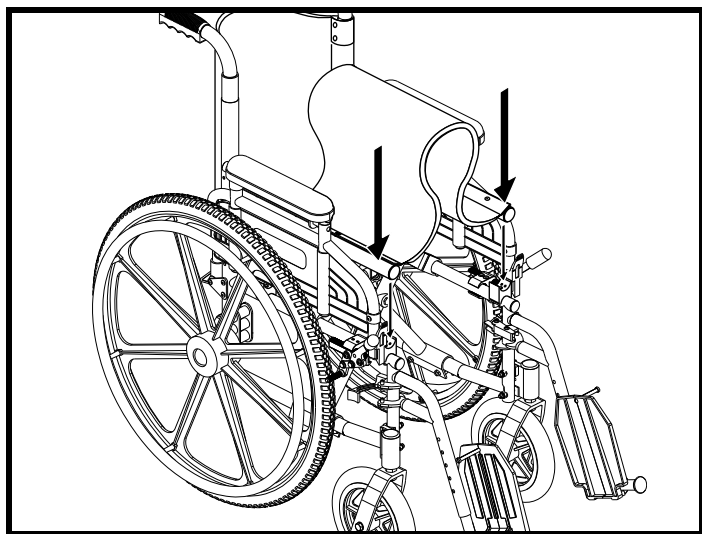

Figure 8. Unfolding the Stylus
2. Place the palm of your hands on each seat base rail. See figure 8.